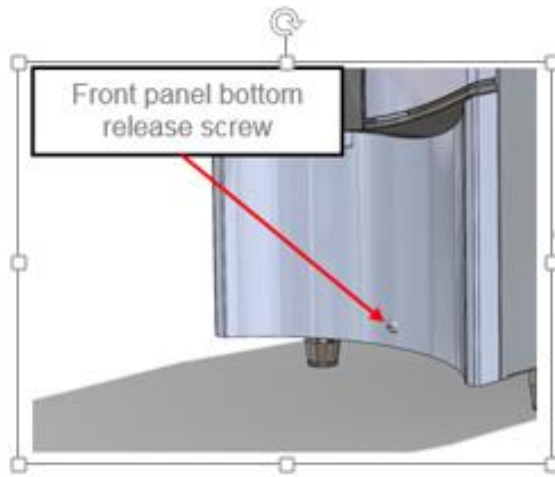

Fig 1
- Remove the lower front panel to access the drain hose located on the lower left. To remove the panel, remove the single retaining screw and prise the panel off using a flat head screw driver. (Fig 1)